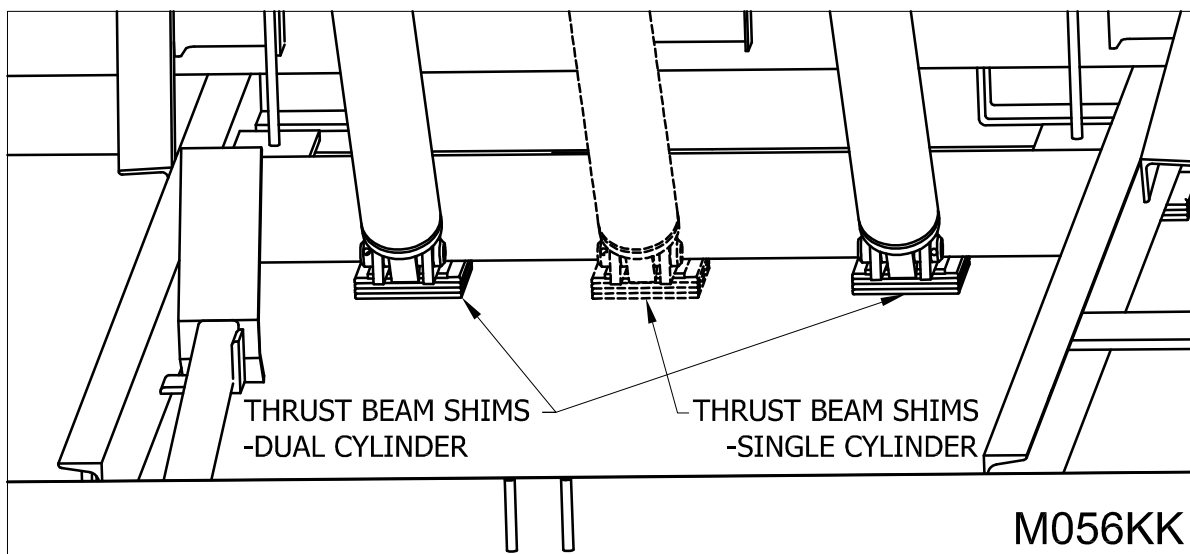

Figure 32: Thrust Beam Shim(s)
4. ___ Thrust beam shim(s). (See "Figure 32: Thrust Beam Shim(s)" on page 28)